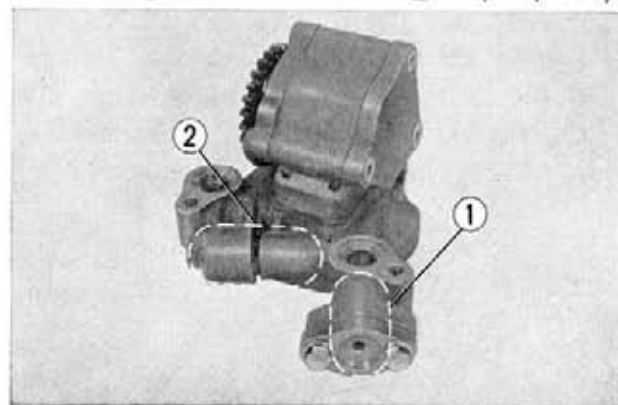

Fig. 3-13 ① Leak stopper valve
6. For disassembling the oil leak stopper valve, remove the oil leak stopper cap bolts. The oil leak stopper cap, spring and oil leak stopper valve can be removed from the oil pump. (Fig. 3-13)
7. For disassembling the relief valve, unscrew the relief spring cap, the relief valve spring and relief valve can be removed. (Fig. 3-13)